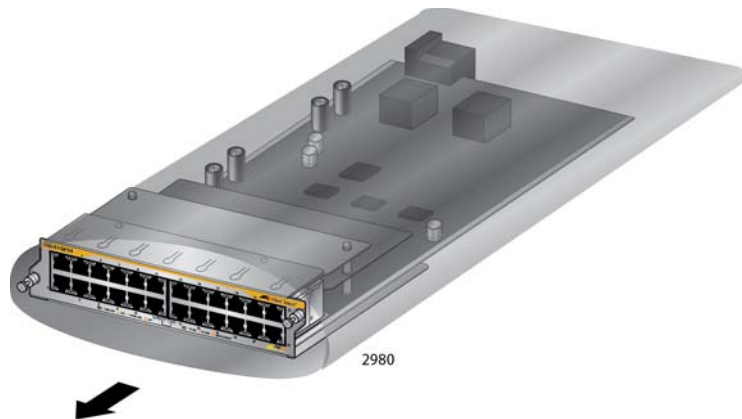

Figure 69. Removing an Ethernet Line Card from the Anti-static Bag
- Carefully remove the Ethernet line card from the anti-static bag. Refer to Figure 69.